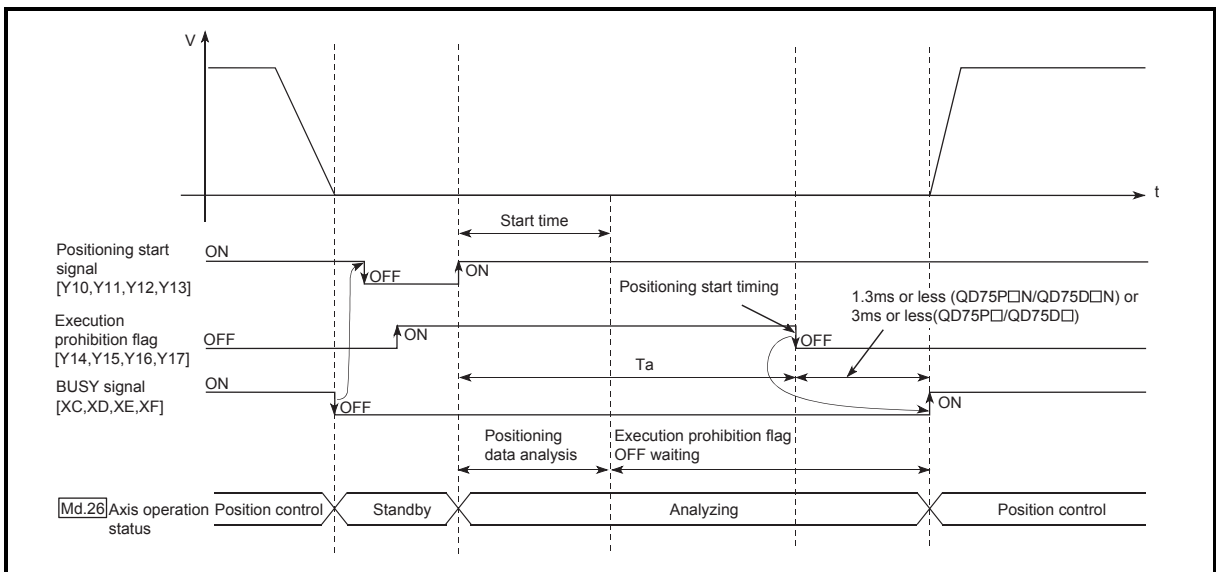
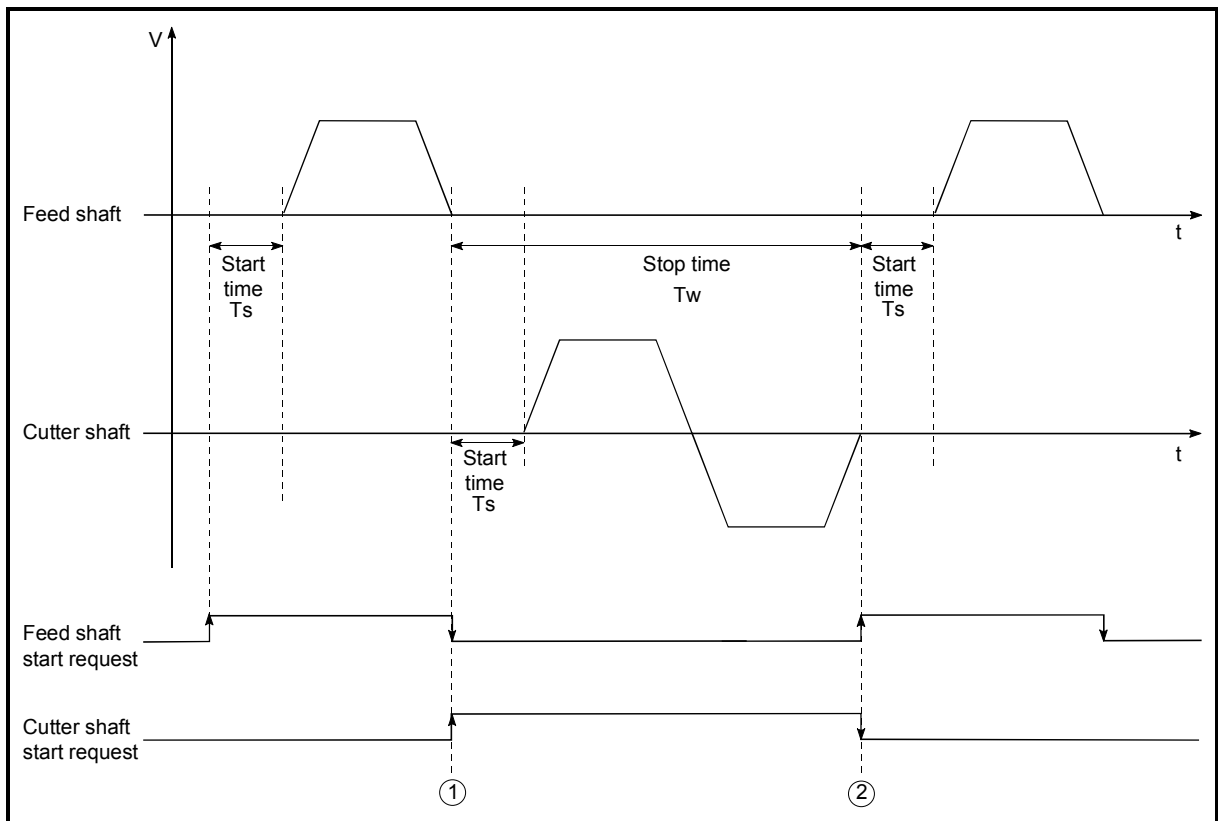

Fig. 12.52 Operations of pre-reading start function
Fig. 12.54 Operation timings of system example
The pre-reading start function is performed by turning ON the positioning start signal [Y10, Y11, Y12, Y13] with the execution prohibition flag [Y14, Y15, Y16, Y17] ON, or by executing the dedicated instruction (ZP.PSTR1, ZP.PSTR2, ZP.PSTR3, ZP.PSTR4). However, if positioning is started with the execution prohibition flag ON, the positioning data is analyzed but pulse output is not provided. While the execution prohibition flag is ON, " [Md.26] Axis operation status" remains unchanged from "5: Analyzing". Pulse output starts within 1.3ms (QD75P□N/QD75D□N) or 3ms (QD75P□/QD75D□) after the execution prohibition flag [Y14, Y15, Y16, Y17] has turned OFF, and " [Md.26] Axis operation status" changes to the status (e.g. "Position control", "Speed control") that matches the control system. (Refer to Fig. 12.52)
to cut the stock to fixed size. The operations of the feed shaft and cutter shaft are represented as shown in Fig. 12.54.
In Fig. 12.54, the feed shaft stands by during the stop time T_w . Hence, pre-reading of the next data starts during the stop time T_w . If T_w is a certain period of time, the analysis of the next data is completed during that period, and the system is placed in an execution prohibition flag OFF waiting status. Therefore, replacing the positioning start timing at ② with the execution prohibition flag OFF allows the time from when the axis operation request turns ON until pulse output starts to be reduced to within 1.3ms (QD75P□N/QD75D□N) or 3ms (QD75P□/QD75D□) in the sequence program. (Refer to Fig. 12.52.)
- (1) The time required to analyze the positioning data is up to 7ms.
- (2) After positioning data analysis, the system is put in an execution prohibition flag OFF waiting status. Any change made to the positioning data in the execution prohibition flag OFF waiting status is not reflected on the positioning data. Change the positioning data before turning ON the positioning start signal.
- (3) The pre-reading start function is invalid if the execution prohibition flag is turned OFF between when the positioning start signal has turned ON and when positioning data analysis is completed (Ta < start time, Ta: Refer to Fig. 12.52).
- (4) The data No. which can be executed positioning start using " [Cd.3] Positioning start No." with the pre-reading start function are No. 1 to 600 only. Performing the pre-reading start function at the setting of No. 7000 to 7004 or 9001 to 9004 will result in an error "Outside start No. range" (error code: 543).
- (5) Always turn ON the execution prohibition flag at the same time or before turning ON the positioning start signal. Pre-reading may not be started if the execution prohibition flag is turned ON during Ta after the positioning start signal is turned ON. The pre-reading start function is invalid if the execution prohibition flag is turned ON after positioning start (pulse output) with the execution prohibition flag OFF. (It is made valid at the next positioning start.)